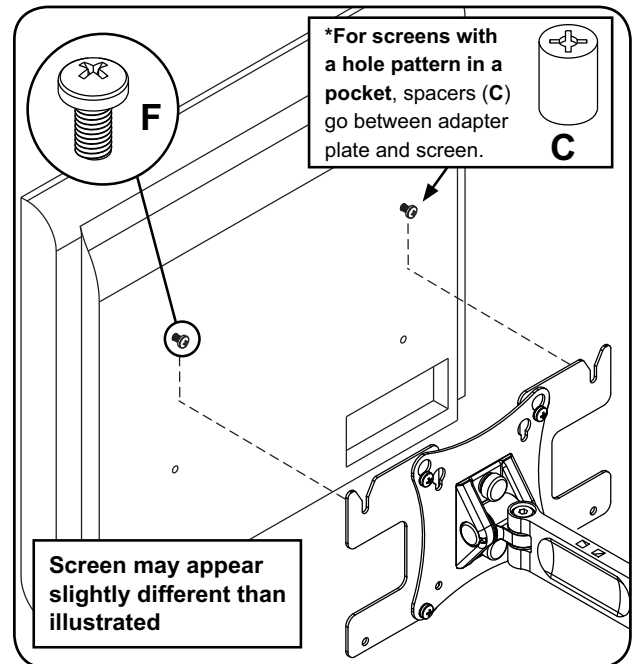

fig. 4.1
- 3** Attach adapter plates (J) to tilt plate of arm assembly (AA) using four M5 x 6 mm screws (K) and four #10 flat washers (L).
- 4** Insert two M4 x 12 mm screws (A) into top two holes of screen, leaving approximately 1/4" (6.3 mm) of exposed thread. Hook screws onto slots of adapter plates (J) as shown in figure 4.1
**NOTE:** If hole pattern is in a pocket, insert two M4 x 20 mm screws (B) with two retaining spacers (C) into top two holes of screen.